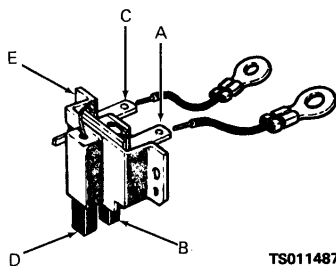

Figure 3-8. Alternator brush assembly, showing continuity paths.
(2) Remove the two terminal screws (7), nuts (8), insulating washers (9), leads (12), washers (11), and bushings (10) from the brush cover.
(3) Remove the two screws (13) that secure the insulator (14) and brush assembly (15) to the alternator; remove the brush assembly with the attached electrical leads (12).
(4) Inspect the brush assembly for cracks, signs of over-heating, and distortion. Check that the brushes slide freely in the brushholders and that the brush springs provide sufficient brush tension. Inspect the brushes for cracks, oil saturation, and wear. If you find that the brushes are worn to less than 3/16 inch (0.468 cm), oil soaked, or cracked, replace the brush assembly.
(5) If the brush assembly passes your visual inspection, check the electrical condition of the assembly. Refer to figure 3-8. Check that continuity exists between points A and B and between points C and D, but that no continuity exists between point E and points A or C.